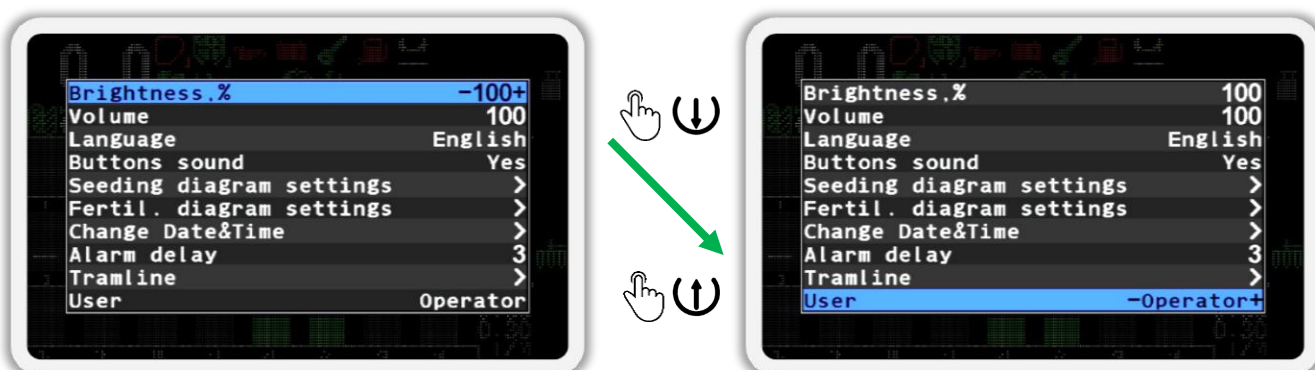

Figure 105
- Press the  “Menu” button again. As a result, a menu will appear on the screen, in which you have to select the  “User” item (see Figure 105). To do this, use the  “Up” or  “Down” buttons (further in the text, to move from one menu item to another, use these buttons).